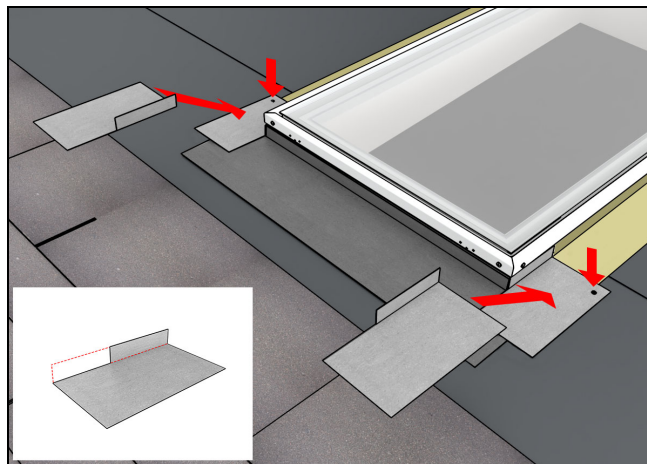

Figure 17
15. First step flashing placed a minimum of 4" beyond the sill of unit. Note: remove material of vertical leg that extends beyond sill saddle. See Figure 17.